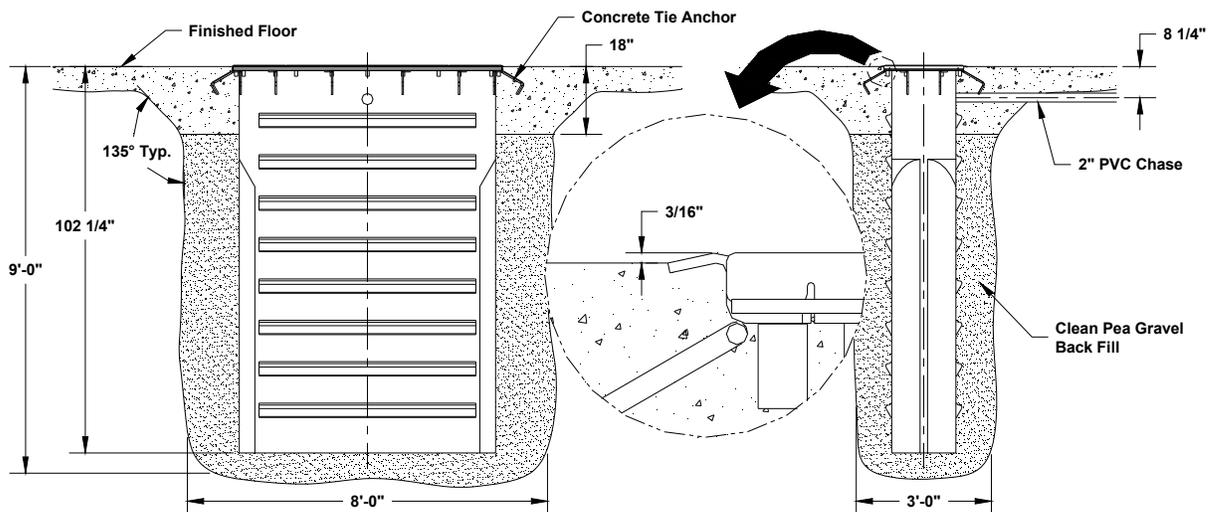

Fig. 2
New construction requires an excavation as shown in Fig. 2. **NOTE:** Concrete must be finished to edge of concrete tie (3/16" below top of concrete ties, see Fig. 2 below). All depths are measured from the finished floor level. Failure to comply will void the warranty. The power unit may be installed on the nearest wall or floor pedestal. The power unit should be located out of the working area around the lift and vehicle, but close enough to allow good visibility while operating the lift. Hydraulic and air lines from the lift should be recessed under the slab in a 2" sch. 40 PVC chase. CLI will supply the proper coupling to join the PVC chase to the lift.
- Pour concrete floor taking care not to run concrete in or on top of the lift / containment assembly. **NOTE:** Concrete must be finished to edge of concrete tie (3/16" below top of concrete ties, see **Fig. 2**). The floor should slope away from the lift for drainage. The floor slope should not exceed 1/16" per foot. 3500 psi concrete, steel reinforced per local commercial practice is required. The new concrete must be mechanically joined to the existing floor with rebar.